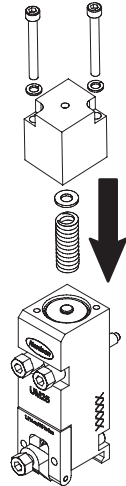

Figure 9-11 Installing the air cap assembly
7. See Figure 9-11. Position a reused (minor rebuild) or new (major rebuild) compression spring inside the air cap assembly, apply anti-seize lubricant to the air cap assembly screws, and install the air cap assembly on the module.